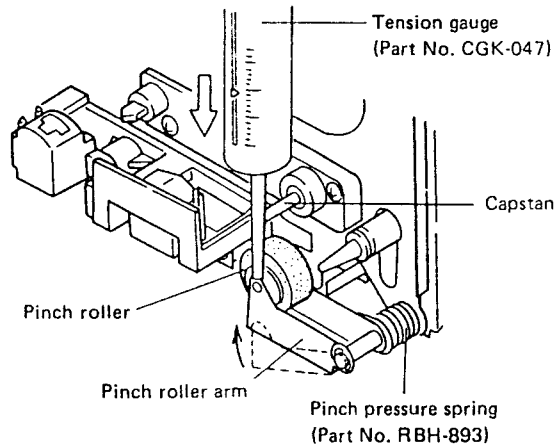

Fig. 12-1 Pinch roller pressure adjustment
2. Gently push against the pinch roller arm with a tension gauge (service part no. GJK-047) and separate the pinch roller slightly from the capstan. (See Fig. 12-1).